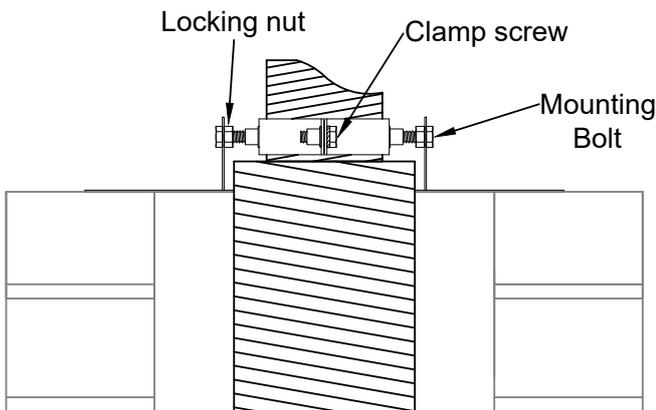

Figure 4-11: Fitting support clamp for inner flue liner to secure inner flue liner
10. Tighten the clamp screws to secure the inner flexible liner to the support clamp for inner flue liner. Refer to Figure 4-11.